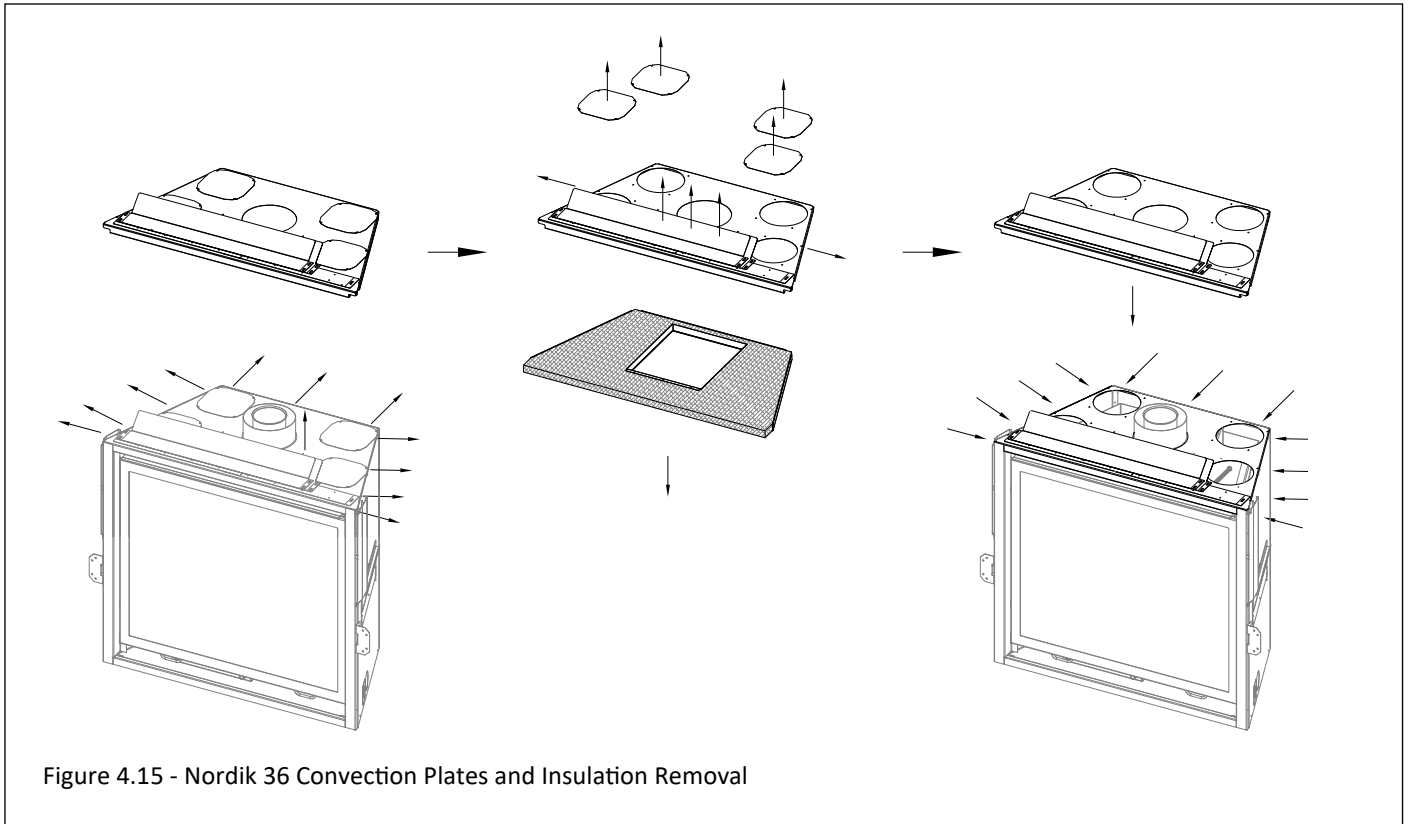
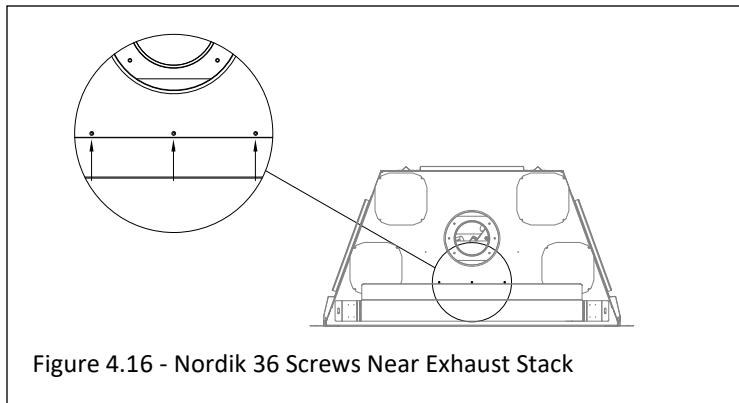

Figure 4.15 - Nordik 36 Convection Plates and Insulation Removal
Figure 4.16 - Nordik 36 Screws Near Exhaust Stack
1. Remove the (11) sheet metal screws that secure the top outer shell assembly. Pull this assembly straight up around the exhaust stack to remove it from the appliance. See the first image in Figure 4.15.
2. Remove the (4) cover plates where each cover plate is secured with (4) sheet metal screws. See the second image in Figure 4.15. Discard these cover plates.
3. Remove (3) sheet metal screws from the top of the assembly (see close up in Figure 4.16) and (2) sheet metal screws on the side of the assembly (one screw on each side shown in the second image of Figure 4.15). You are now able to separate the two sections of the top outer shell assembly. Remove and discard both the insulation and the bottom section of the top assembly. Additionally discard the (4) cover plates shown in the second image of Figure 4.15.
4. Reinstall the top outer shell assembly on the appliance with the previously removed (13) sheet metal screws.